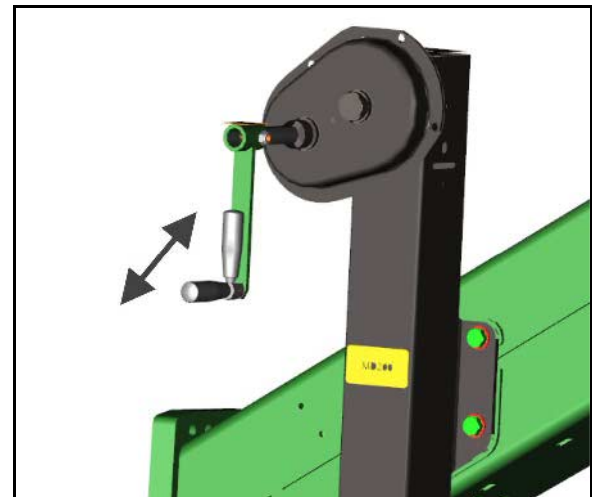

Fig. 59
The creation of tramlines is shown in Figure (Fig. 59) using various examples:
1. Look for the following in the adjacent table (Fig. 59):
Figure (Fig. 59) shows examples for creating tramlines with tramline rhythms 4, 6 and 8.
Figure (Fig. 59) shows examples of tramline creation with tramline rhythms 2 and 6plus.